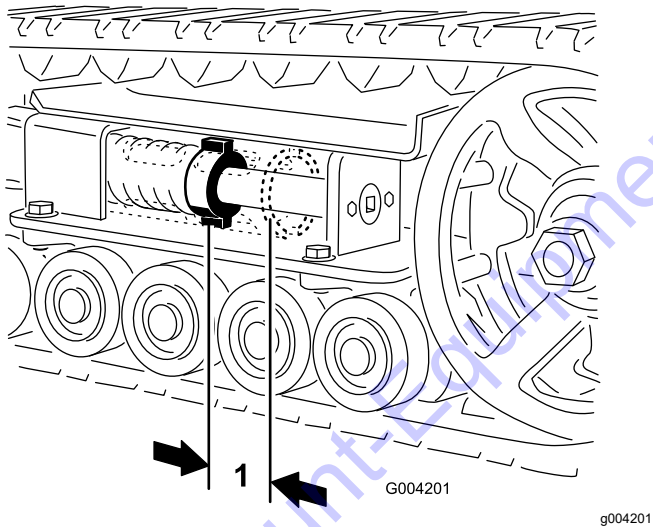

Figure 46
There should be 7 cm (2-3/4 inches) between the tension nut and the back of the tension tube (Figure 46). If not, adjust the track tension using the following procedure:
5. Using a 1/2-inch drive ratchet, turn the tensioning screw counterclockwise until the distance between the tension nut and the back of the tension tube (Figure 46) is 7 cm (2-3/4 inches).
12. Turn the tensioning screw counterclockwise until the distance between the tension nut and the back of the tension tube (Figure 46) is 7 cm (2-3/4 inches).
18. Turn the tensioning screw counterclockwise until the distance between the tension nut and the back of the tension tube (Figure 46) is 7 cm (2-3/4 inches).